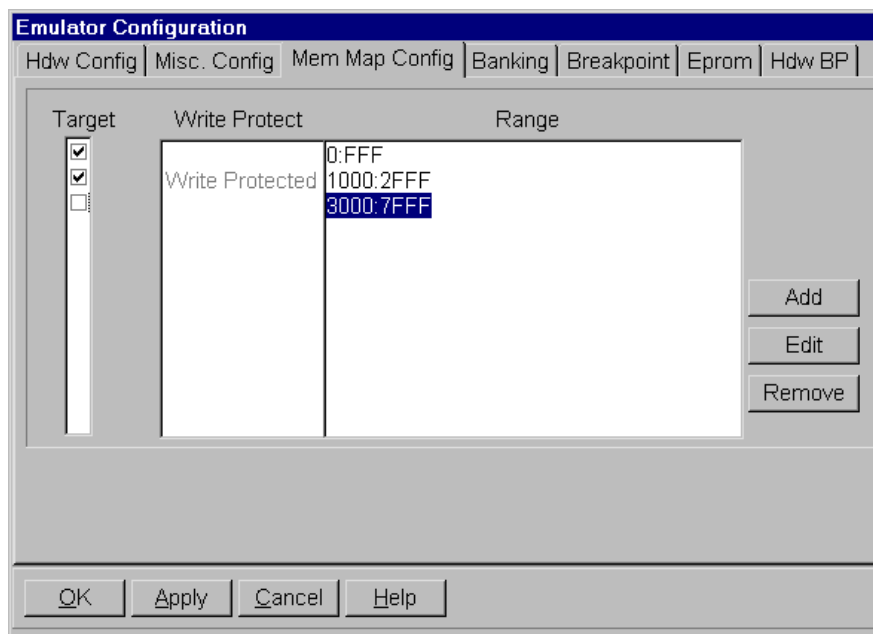

Figure 40. Memory Map Configuration Tab for the Standard Board
1. From the **Emulator Configuration** dialog box, click the **Mem Map Config** tab (Figure 40).